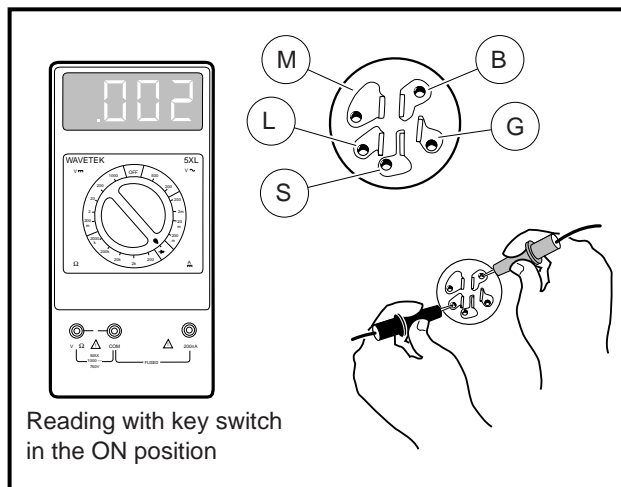
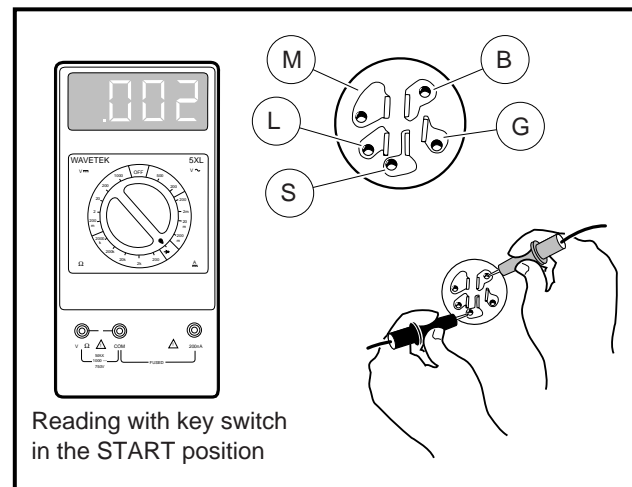

Figure 11-27 Key Switch Test – Accessory Terminal
Figure 11-28 Key Switch Test – Starter Circuit
4. Insert the key and turn the key to ON. Place the red (+) probe of the multimeter on the (B) terminal and the black (–) probe on the (L) terminal of the key switch. The reading should be continuity. If the reading is incorrect, replace the key switch (**Figure 11-27, Page 11-26**). **See Key Switch Removal, Section 12, Page 12-15.**
5. With the key still in the ON position, place the red (+) probe of the multimeter on the (B) terminal and the black (–) probe on the (S) terminal of the key switch. The reading should show no continuity. If the reading is incorrect, replace the key switch. **See Key Switch Removal, Section 12, Page 12-15.** If the reading is correct, leave the probes connected and proceed to the next step.
6. Insert the key and hold the key in the START position. The reading should be continuity. If the reading is incorrect, replace the key switch (**Figure 11-28, Page 11-26**). With the red (+) probe of the multimeter on the (B) terminal and the black (–) probe on the (L) terminal of the key switch, the reading should be continuity. If either reading is incorrect, replace the key switch. **See Key Switch Removal, Section 12, Page 12-15.**
- Insert the key and turn the switch to the ON position. With the multimeter set to 200 Ω (ohms), place the red (+) probe of the multimeter on the (B) terminal and the black (-) probe on the (L) terminal of the key switch (**Figure 11-27, Page 11-26**). The reading should be continuity. If the reading is incorrect, replace the key switch. **See Key Switch Removal, Section 12, Page 12-15.**